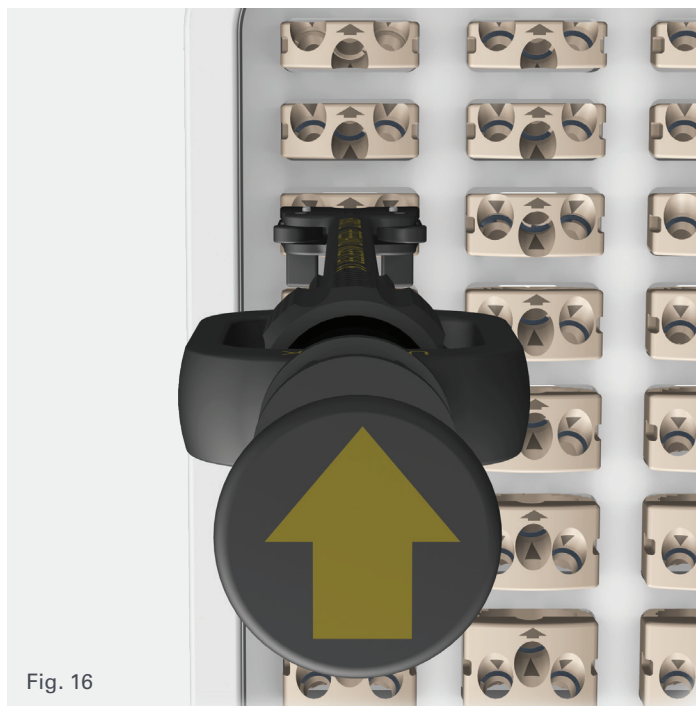

Fig. 16
1. For proper orientation of the implant on the inserter, line up the laser marked arrow on the proximal end of the freehand inserter with the arrow on the face of the implant. Both arrows should be facing the same direction (Fig. 16).